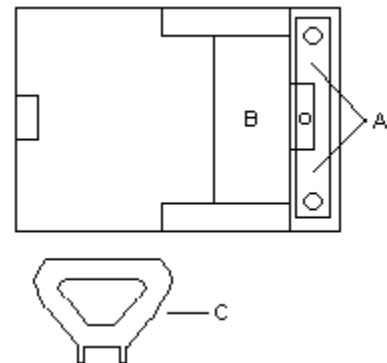

Figure 1 - Hopper seen from top
- re-position plate B of Figure 1, pressing the forks of the mechanical key C on points A (two springs shift plate B to the right):
ATTENTION: the *hopper* case cannot be replaced in its seat if plate B of Figure 1 is not re-located on the right.